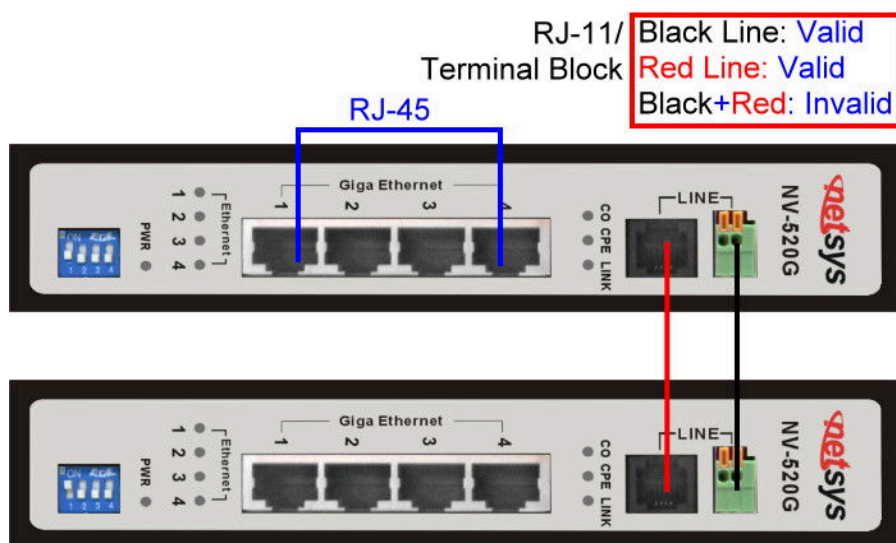
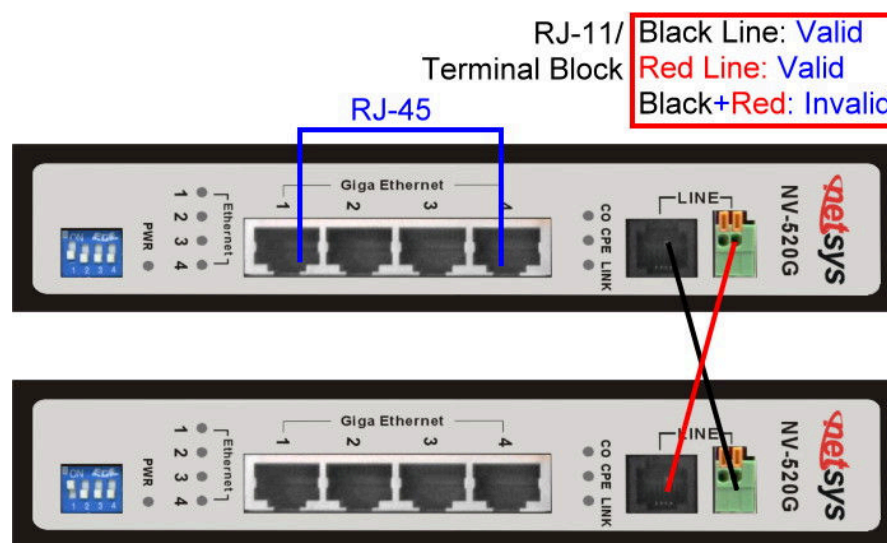

Figure 2.6.1 NV-520G line ports straight connection
Figure 2.6.2 NV-520G line ports crossover connection
- ◆ The Line port has 2 connectors: RJ-11 and terminal block. It is used to connect from NV-520G (CO) over single pair phone cable to NV-520G (CPE) line port (point to point solution). Take note that NV-520G line port cannot be used at the same time. Either RJ-11 port is connected or terminal block is connected using straight connection (Figure 2.6.1) or cross-over connection (Figure 2.6.2)